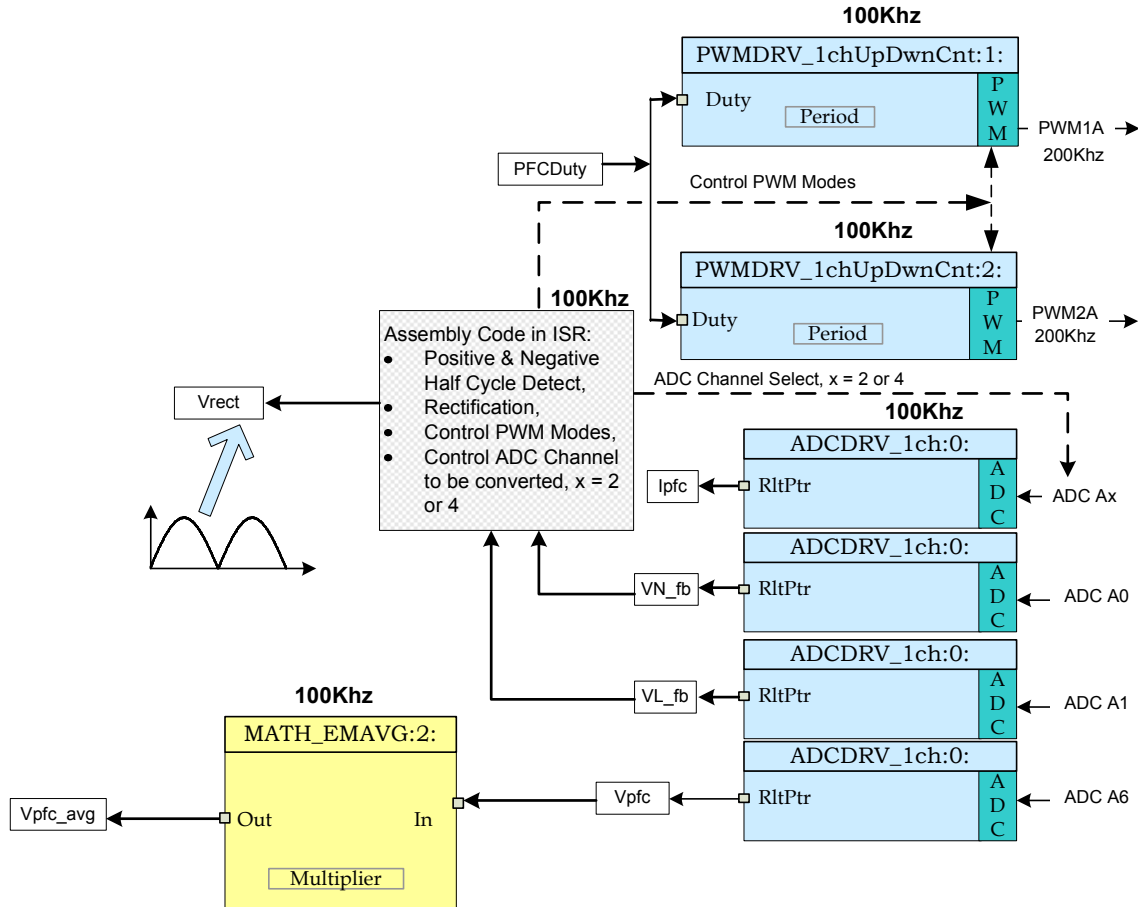

Figure 3.1.1. Build 1 software blocks
The PWM and ADC driver macro instantiations are executed inside the `_DPL_ISR`. Fig 3.1.1 shows the software blocks used in this build. The two PWM signals for the two PFC switches are obtained from ePWM module 1 & 2. ePWM1A drives one of the PFC switches while ePWM2A drives the other.
The quantities that are sensed and fed back to the MCU include, (1) the line and neutral voltages (V_{L_fb} , V_{N_fb}), (2) the two PFC switch currents (I_{sw1} , I_{sw2}) each sampled at appropriate line half cycle and then saved as I_{pfc} , and (3) the DC bus voltage (V_{pfc}). These quantities are read using the ADC driver module and are indicated in Fig 3.1.1. The ADC driver module converts the 12-bit ADC result to a 32bit Q24 value. A few lines of code in the ISR implements the detection of input AC line half cycle (positive &